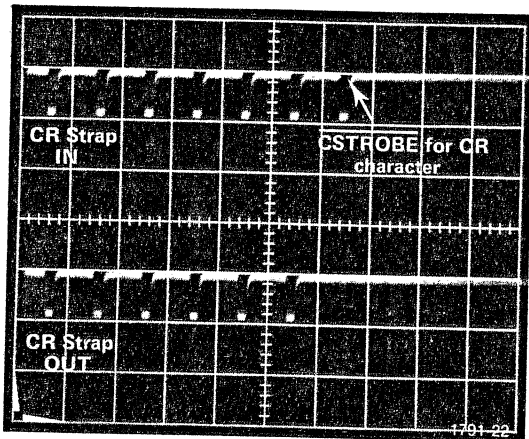

Fig. 4-4. CR strap verification.
2. Bring the pen into presence, and leave it. Seven CSTROBE's should appear on the oscilloscope screen (Fig. 4-4).
4. If it has left presence, place the pen in presence and leave it. Six CSTROBE's should appear on the oscilloscope screen; CR is not strobed on to the bus (Fig. 4-4).